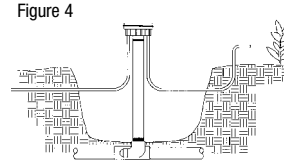
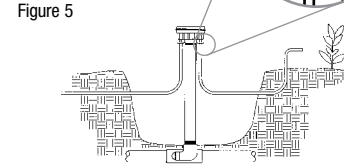

Figure 4
Figure 5
4. Remove the cover and the Mini-Disk filter. Attach 1/8 in. micro tubing to the outlet side (see Figure 4). If using 1/4 in. micro tubing, first connect a 1/4 in. converter barb onto the 1/4 in. micro tubing (see Figure 5) and then insert the converter barb into the outlet side of the Maverick.